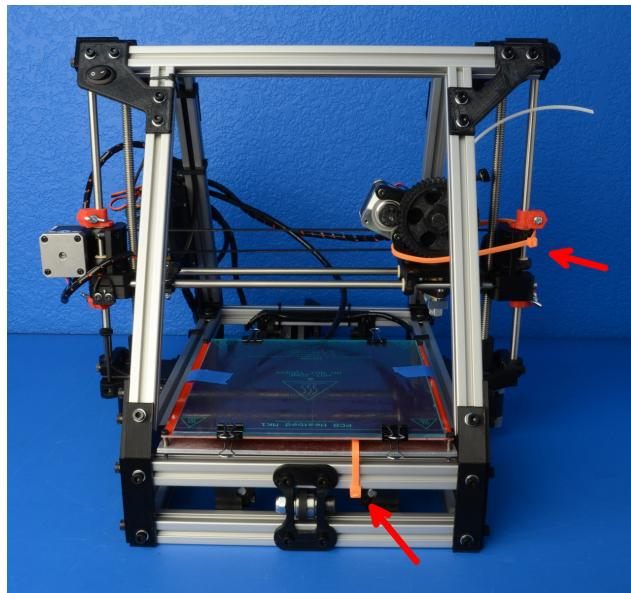

Figure 1.2: Orange Zip Ties
8. Using scissors or wire cutters, cut and remove the two ORANGE plastic zip ties (Fig. 1.2, page 13) . One zip tie is located on the